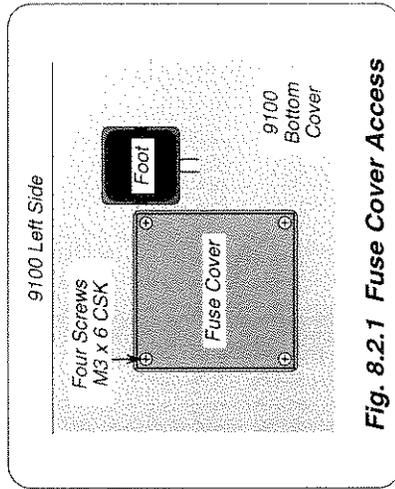

Fig. 8.2.1 Fuse Cover Access
- b. Lift the left side of the 9100 to stand on its right side. Rotate the instrument to give good access to the small panel (Fig. 8.2.1) on the underside: